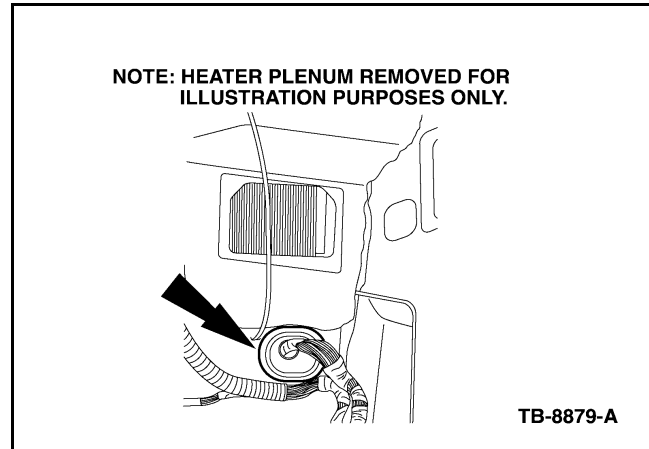

Figure 3 - Article 07-14-6
- a. Reposition the grommet into the bulkhead making sure the grommet is fully seated and sealed. If there is any aftermarket wiring installed through the grommet, reroute and seal as necessary. (Figure 3)